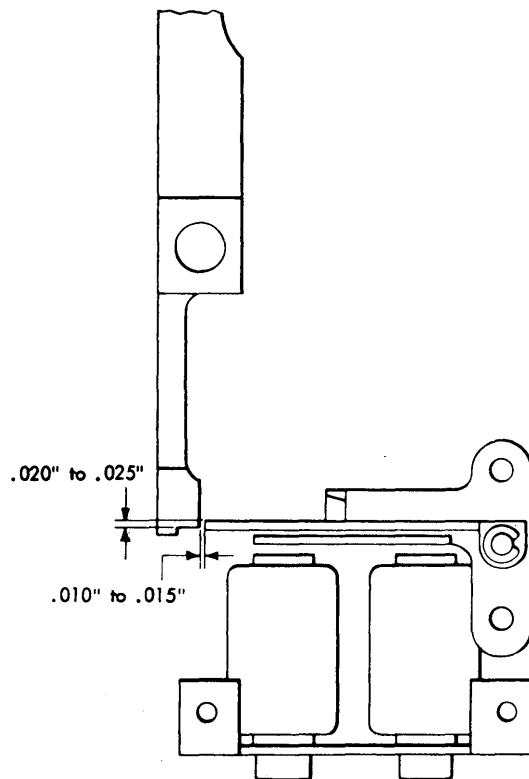

Figure 4-16. Punch Clutch Armature Relatching Clearance and Overlap
5. With the cam follower on the high dwell of the clutch cam, set the armature stop and pivot assembly for .020" to .025" overlap on the latch arm and for .010" to .015" re-latching clearance (Figure 4-16).